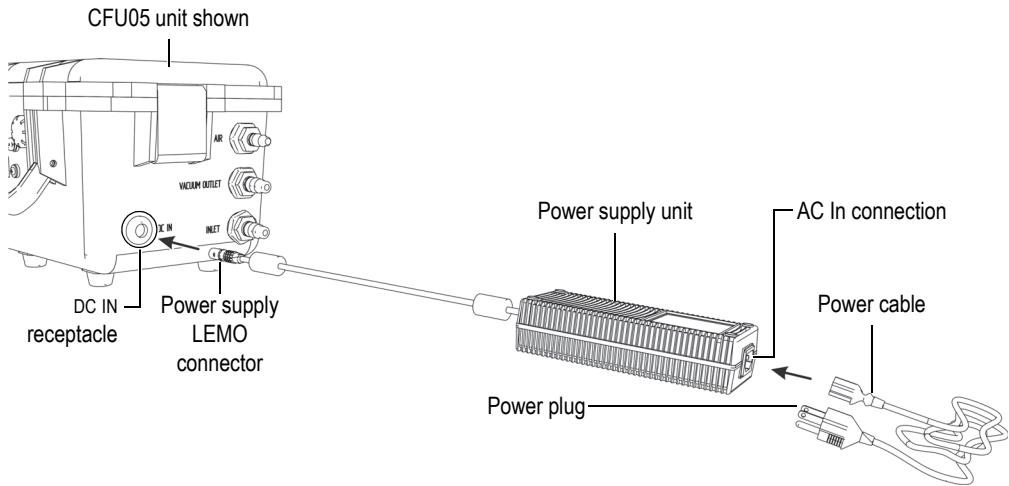
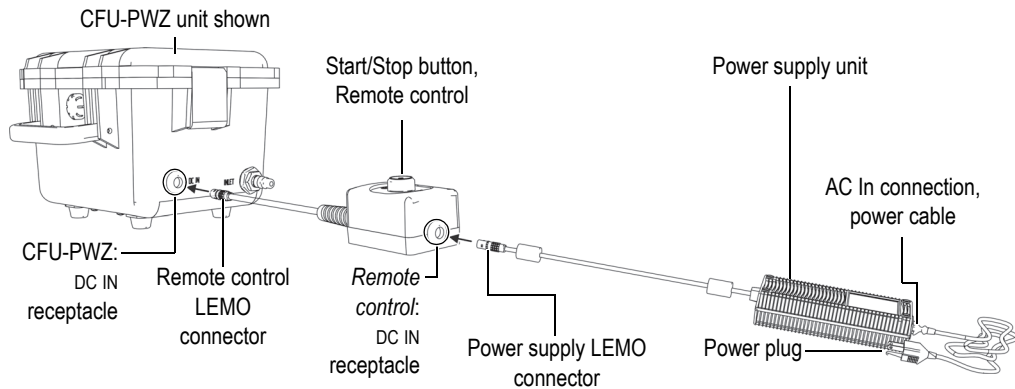

Figure 2-5 Connecting the power supply to a pump
Figure 2-6 Connecting the remote control to a pump
2. Align the pins of the power supply's LEMO connector with the holes of the CFU power connection's DC IN receptacle (Figure 2-5 on page 31).
2. Hold the metallic portion of the power supply connector (Figure 2-5 on page 31).
2. Align the pins of the remote control LEMO connector with the holes of the CFU-PWZ power connection's DC IN receptacle (Figure 2-6 on page 32).
4. Align the pins of the power supply LEMO connector with the holes of the remote control's DC IN receptacle (Figure 2-6 on page 32).
6. Insert the power cable in the power supply unit (see Figure 2-5 on page 31 and Figure 2-6 on page 32) and the power plug in an AC power outlet (wall).
2. On the pump, hold the metallic portion of the remote control's power connector (Figure 2-6 on page 32).
4. On the remote control, hold the box and the metallic portion of the power supply's connector (Figure 2-6 on page 32).